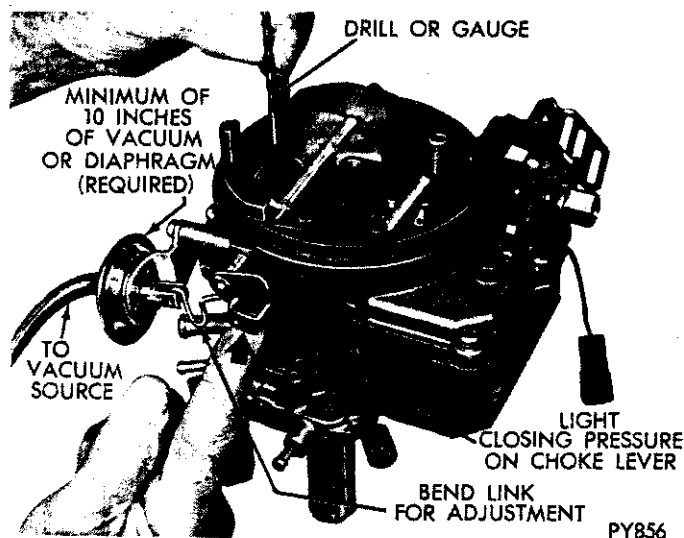

Fig. 22—Vacuum Kick Adjustment
(1) If adjustment is to be made with engine running, disconnect fast idle linkage to allow choke to close to the kick position with engine at curb idle. If an auxiliary vacuum source is to be used, open throttle valves (engine not running) and move choke to closed position. Release throttle first, then release choke.
(2) When using an auxiliary vacuum source, disconnect vacuum hose from carburetor and connect it to hose from vacuum supply, with a small length of tube to act as a fitting. Removal of hose from diaphragm may require forces which can damage the system. Apply a vacuum of 10 or more inches of mercury.
(3) Insert specified drill (refer to Specifications) between top of choke valve and wall of air horn (Fig. 22). Apply sufficient closing pressure on lever to which choke rod attaches to provide a minimum choke valve opening, without distortion of diaphragm link. Note that the cylindrical stem of diaphragm will extend as internal spring is compressed. This spring